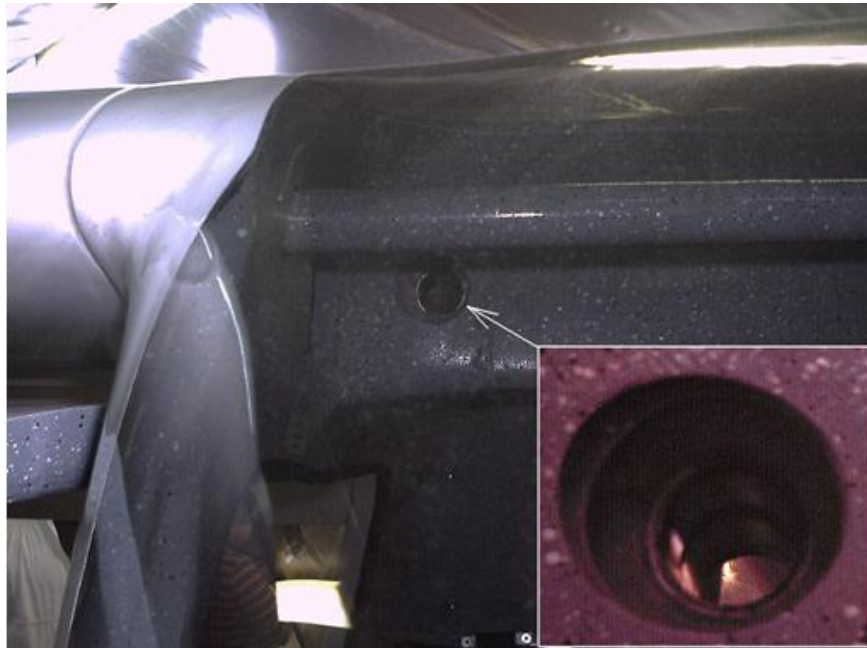

Fig. 11
- 12) Push the main bolts fully in, e.g. set the main bolt KA2000010 (1) into the matched holes of the bushings KA2010102 and KA2010103 by moving the wing up and down (Fig. 11 and 12).